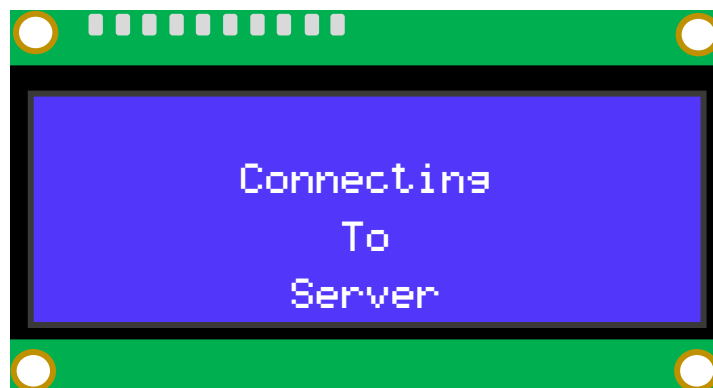

Figure 9 Loss of Internet Connection
7. In the case of a server failure or loss of internet connection, the display will show the status "Connecting to server." (*Figure 9*)